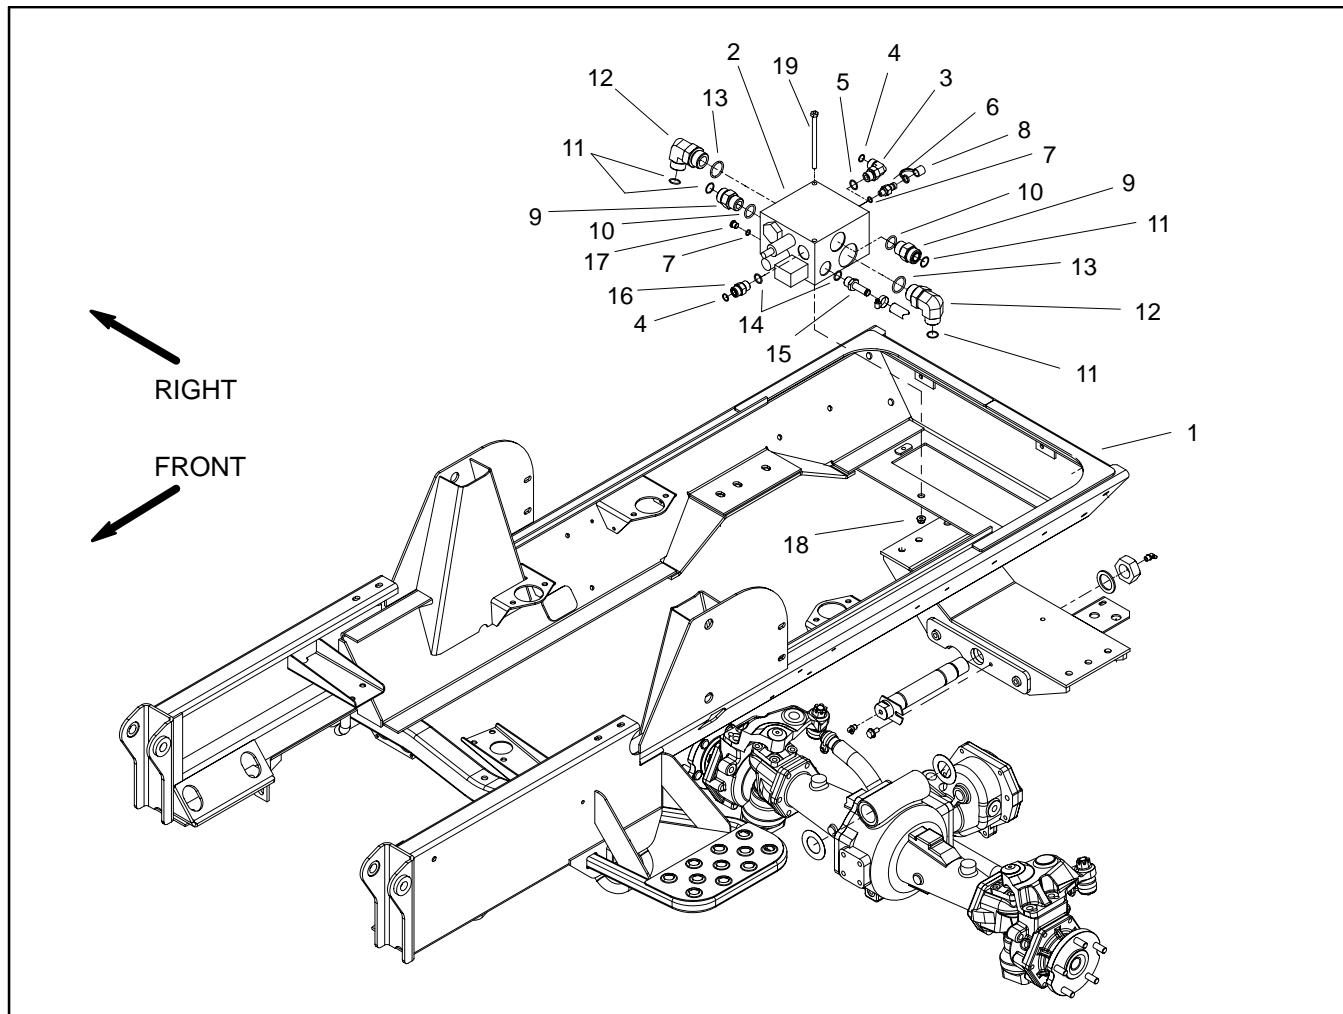

Figure 59
Removal (Fig. 59)
5. Remove hydraulic manifold from the frame using Figure 59 as guide.
Installation (Fig. 59)
1. Install hydraulic manifold to the frame using Figure 59 as guide.